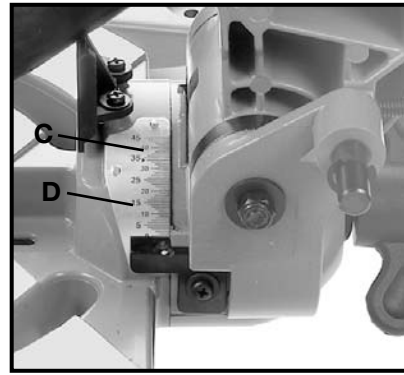

Fig. 19
2. Positive stops are provided to rapidly position the saw blade at 90 and 45 degrees to the table. Refer to the section of this manual titled "**Adjusting 90 and 45 degree bevel positive stops.**" The bevel angle of the cutting arm is determined by the position of the pointer (C) Fig. 19, on scale (D).